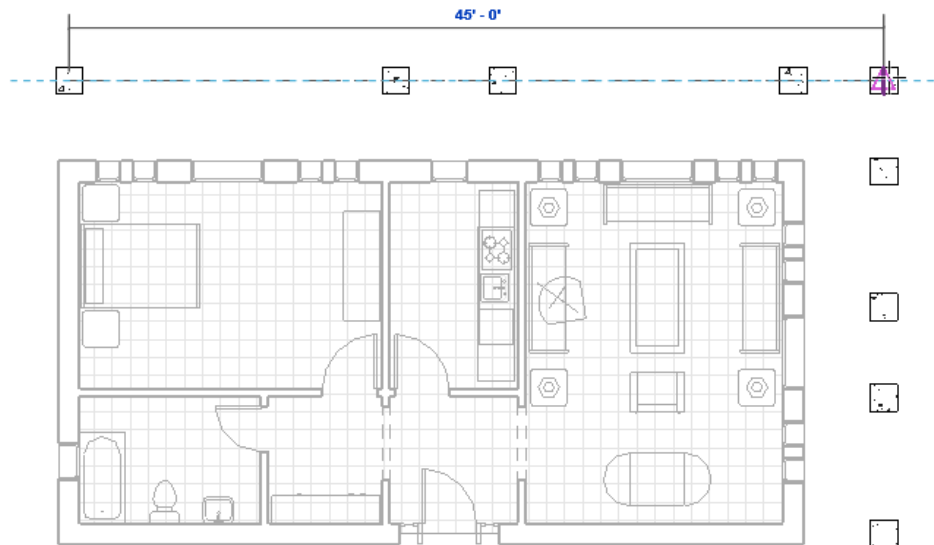

Figure 16-64 Adding the horizontal structural beam to the Design Option 1
20. Sketch the horizontal beam between the two columns, as shown in Figure 16-64. Ignore the warning displayed.